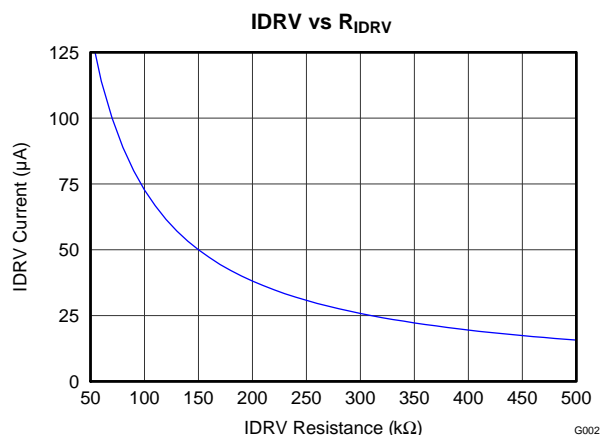

Figure 4.
• Updated <a href="#">Figure 4</a> .....	<a href="#">5</a>